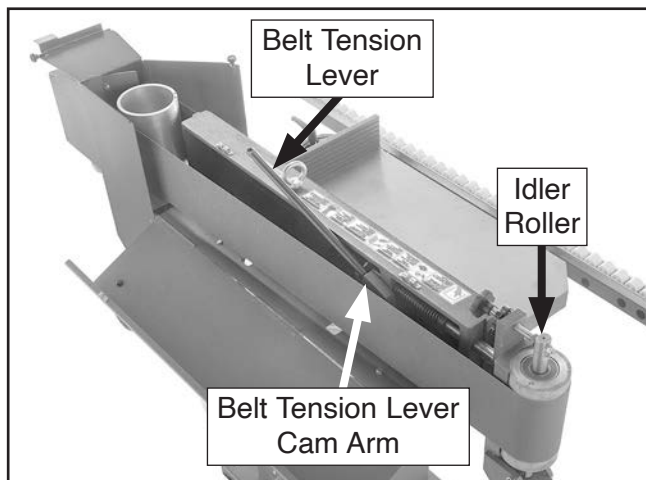

Figure 39. Belt installed and tensioned.
7. Insert belt tension lever into cam arm shown in **Figure 39**, then move belt tension lever toward idler roller until arm locks in place.
8. Remove old sanding belt and replace with new one (see **Figure 39**), being sure arrows on belt match belt rotation arrow label on machine.
9. Move belt tension lever away from idler roller to tension sanding belt (see **Figure 39**), store belt tension lever on storage screw.